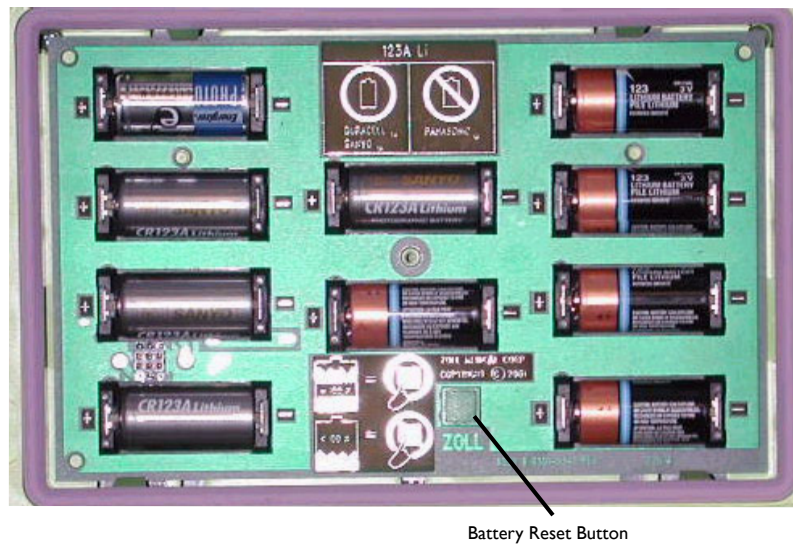

Figure 7: Battery Compartment
- After installing new batteries, press the battery reset button inside the battery compartment when prompted (see Figure 7). Pressing the button resets the battery usage indicator to full charge.